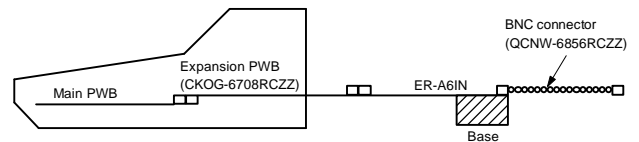

Fig. 2
- Connect a terminating resistor or read network to the BNC connector, QCNW-6856RCZZ (Fig. 2).